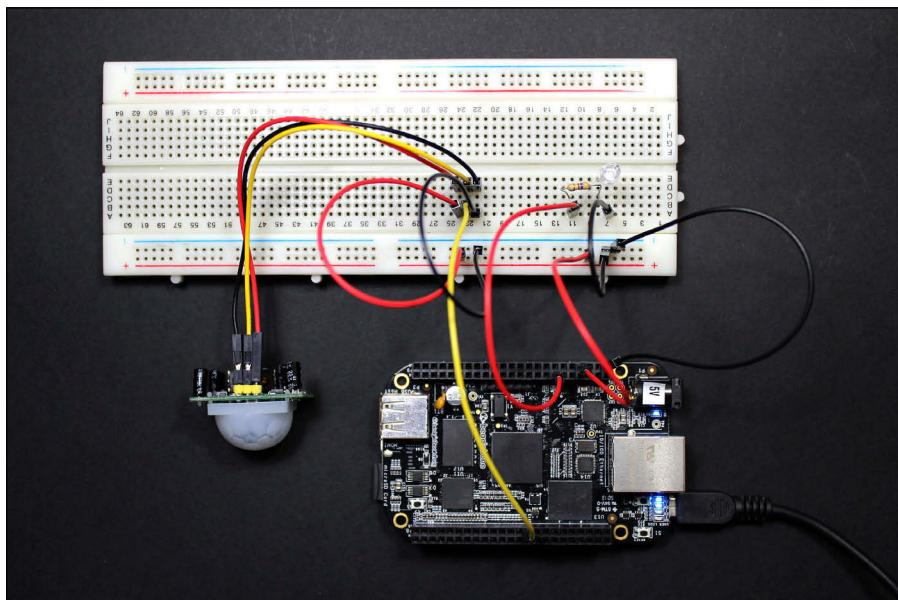

Figure 8-10:
- ✓ If no motion is detected, the LED remains off, and `No motion detected` is printed on your console (see Figure 8-10).